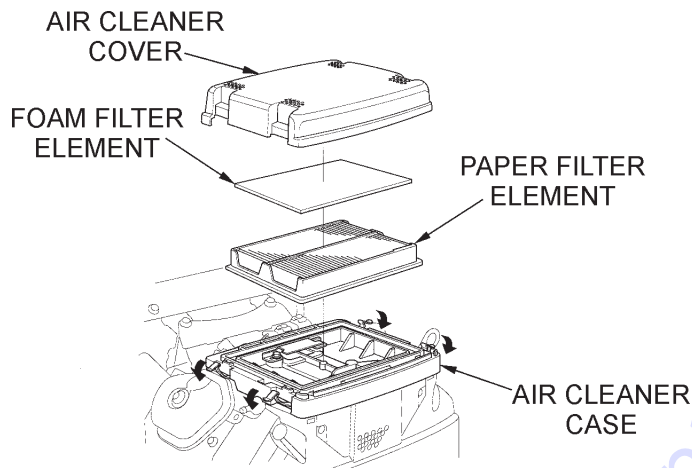

Figure 14. Air Cleaner
- Release the four latch tabs (Figure 14) from the air cleaner cover, and remove the cover.